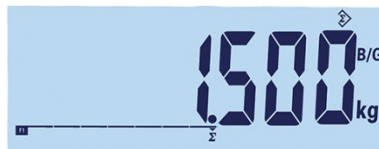

Figure 2-24: Collecting value symbol
1. Put the first weight on the platform and press the “accumulation” function key Σ . If the stable weight is detected within 2 seconds, the grand total value will be 1.5 kg and number will be 1 (Figure 2-24).